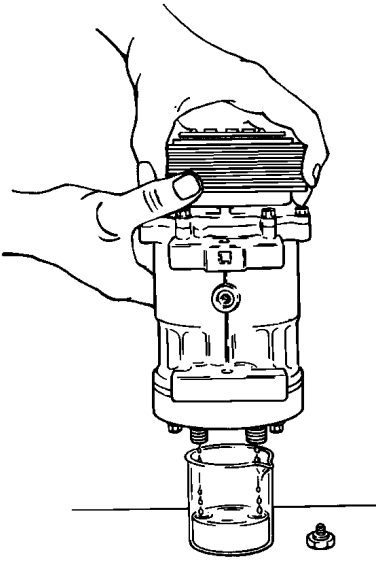

Figure 48 Drain Oil While Turning Shaft
5. Drain remaining compressor oil from the suction and discharge ports, into the calibrated container, while turning the shaft (clockwise only) by hand or with a socket wrench on the armature retaining nut (refer to Figure 48). Replace the caps on the suction and discharge ports.